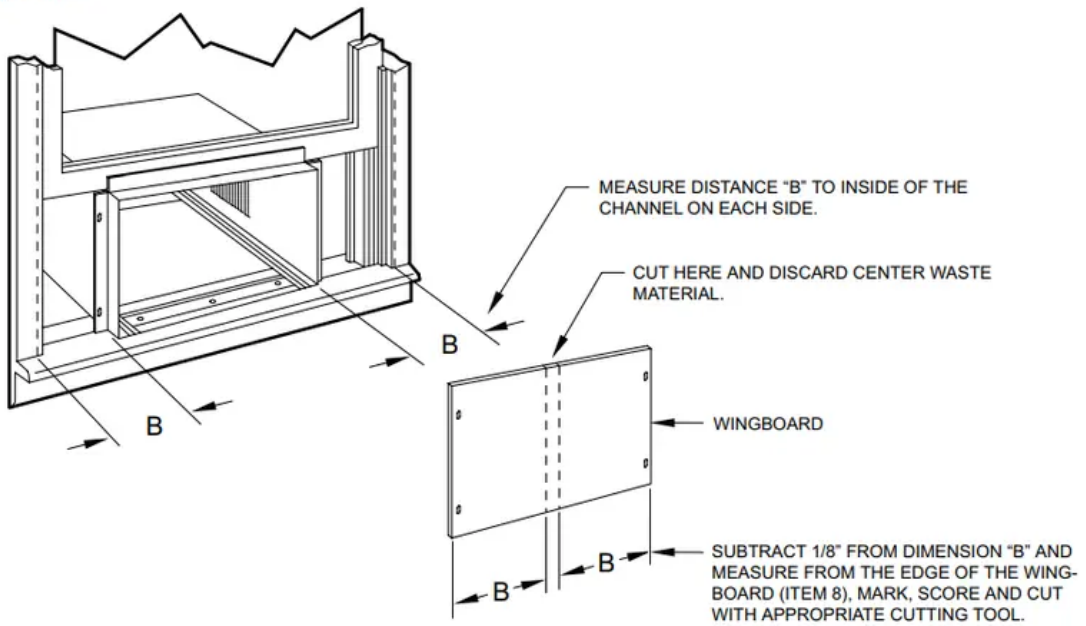

Figure 26
To assemble the wingboard panels. push on the "J" type speed nuts (Item 9) and spring steel clips (Item 10) (See Figures 26) on page 31. Secure each panel with two (2) screws (Item 11).